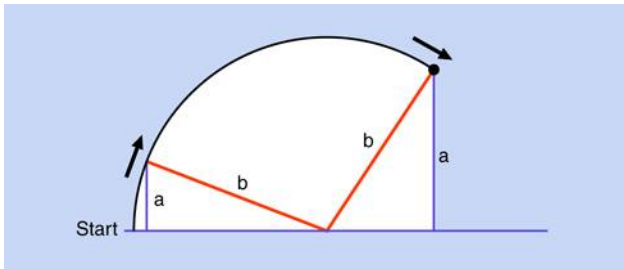
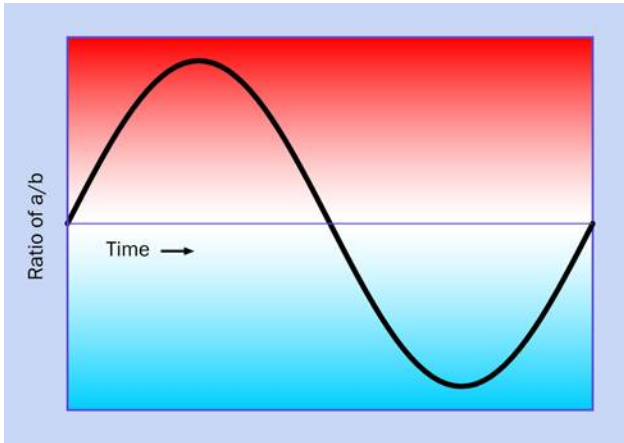

Figure 5-48 You can draw a sine wave by beginning with simple geometry.
Figure 5-49 An audio sine wave is generated by any instrument that uses a vibrating column of air—such as a flute. It is a gentle, harmonious sound.
To make this simpler, imagine a ball on a string rotating around a center point, as shown in Figure 5-48. Ignore the force of gravity, the resistance of air, and other annoying variables. Just measure the vertical height of the ball and divide it by the length of the string, at regular instants of time, as the ball moves around the circular path at a constant speed. Plot the result as a graph, and there's your sine wave, shown in Figure 5-49. Note that when the ball circles below its horizontal starting line, we consider its distance negative, so the sine wave becomes negative, too.
- We can represent the higher and lower waves of pressure by voltages that are relatively high and relatively low, which is why I used the red and blue background in **Figure 5-49**.